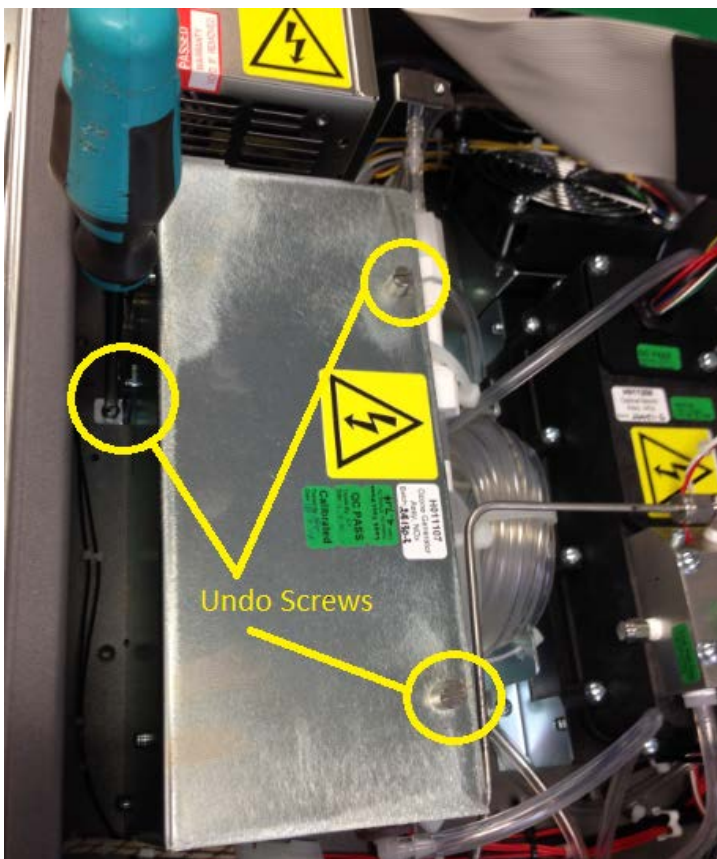

Figure 61 – Remove Ozone Generator from Instrument
3. Undo the 3 screws (refer to Figure 61) and lift the complete assembly from the instrument while at the same time disconnecting the assemblies power connector underneath from the main loom as you go.